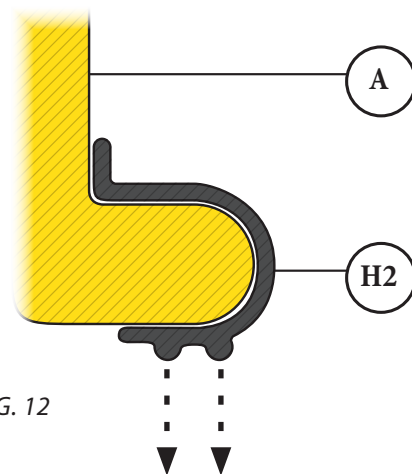

FIG. 12
Install the Barrel Gasket (H2) onto the rounded, bottom edge of the Motor Assembly (A). The Barrel Gasket should be oriented so that the "ribbed" side is facing downwards [FIG. 12].